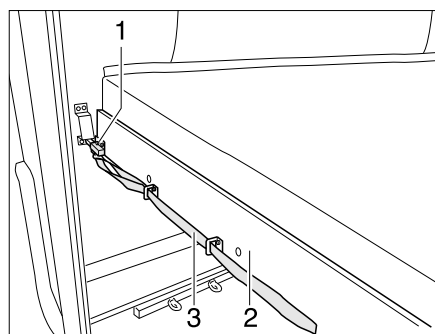

Fig. 175 Bunk bed (rear)
- Pull on the loop (Fig. 175,3) and release the latch (Fig. 175,1).
- Pull the slatted frame (Fig. 175,2) together with the mattress forward until it latches in place.